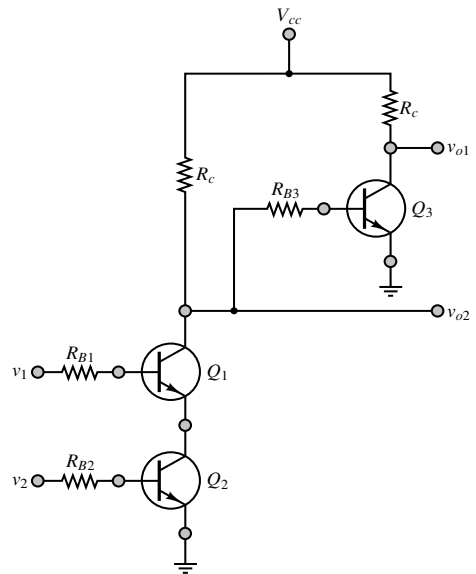

Figure P10.43
- 10.43** Show that the circuit of Figure P10.43 functions as an AND gate if the output is taken at v_{o1} .
- 10.44** Show that the circuit of Figure P10.43 functions as a NAND gate if the output is taken at v_{o2} .